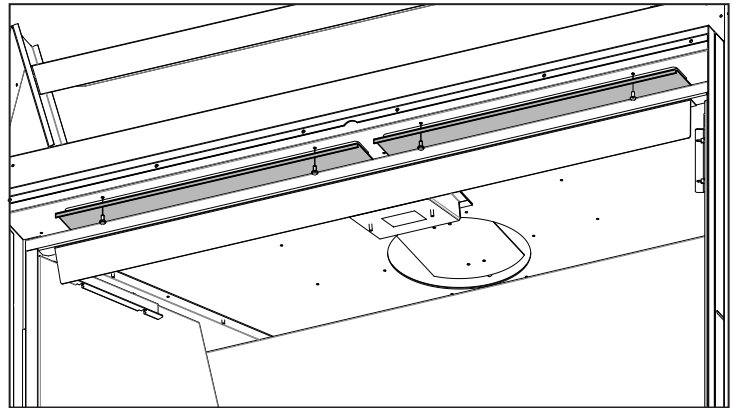
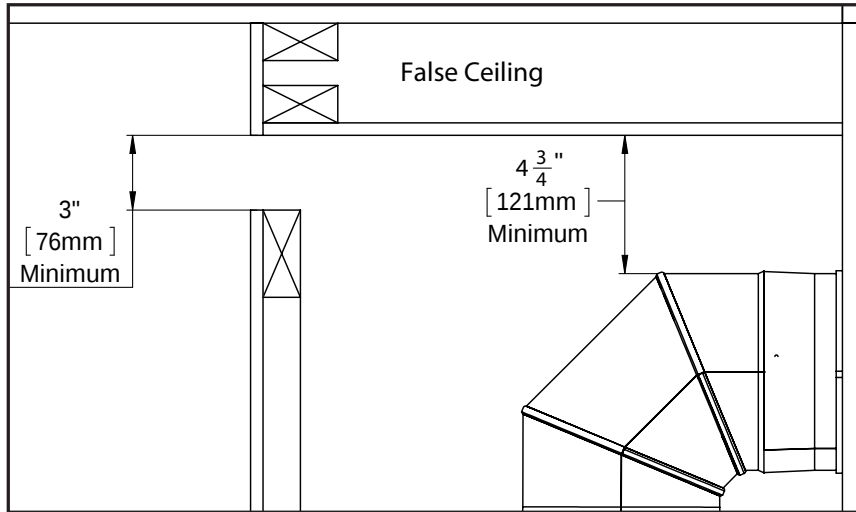

Figure 39: CSS Cover Plates
Figure 42: False Ceiling
Step 4. Remove the two cover plates on the ceiling of the unit. These are secured by four (4) T-20 screws. See Figure 39.
Optional: False Ceiling - If your ceiling dimension is greater than the minimum (Figure 39) You may want the CSS Air discharge lower on the wall. To do this a false ceiling is required to properly evacuate the heat from the chase. (See Figure 42).